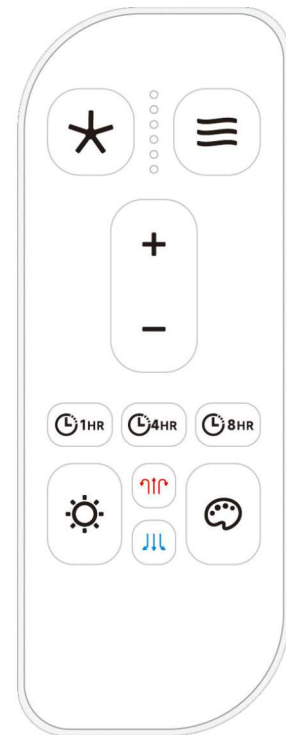

FIG.3
□FUNCTION OF REMOTE CONTROL:(FIG.3)